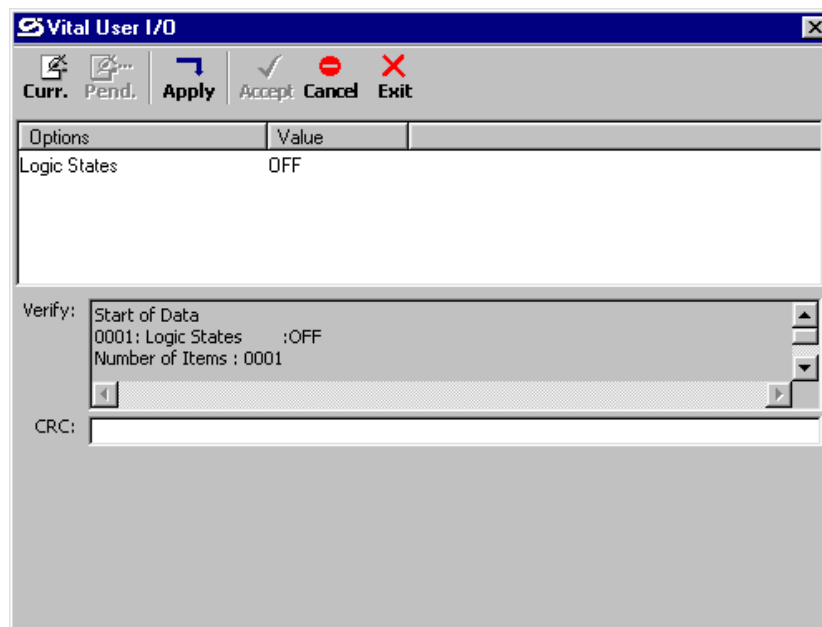

Figure 3-47
1. Bring up the **Vital User I/O** screen (Configure menu/Vital User I/O). The display will be similar to the one shown in figure 3-47.